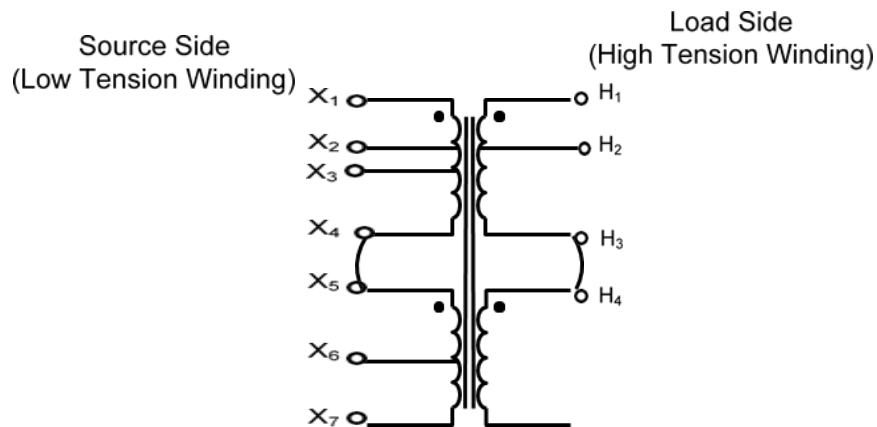

Fig. 5. The Hampden ET-100 transformer connected as a step-up transformer: windings on each side connected in series
2. **Connect the transformer primary and secondary** windings in series, as shown in fig. 5. Make sure the terminal switches are in the up position. The transformer connected in this manner is used as a step-up transformer: the X side (low voltage) will be connected to the source and become the primary side; the H side (high voltage) will be connected to the load and become the secondary side.
**Equipment:** Hampden ET-100 Single-phase multi-terminal transformer. The transformer windings remain configured as per fig. 5. Use the handheld ammeter and a handheld wattmeter due to the small size of measurements.